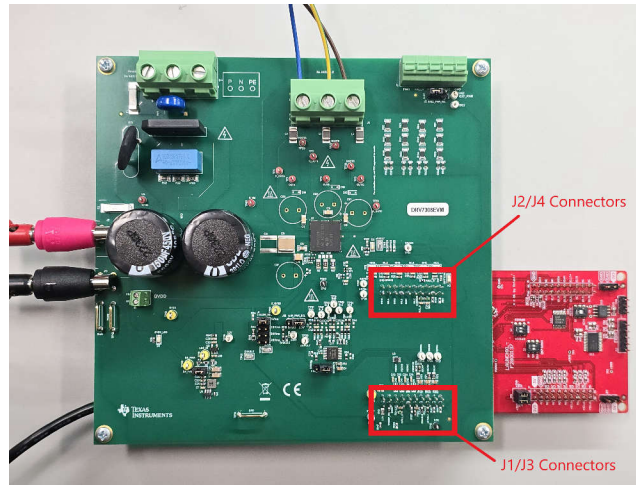

Figure 2-2. DRV7308EVM Mating to C2000 LaunchPad
Figure 2-2 shows the correct connection between the DRV7308EVM and a LAUNCHXL-F2800137 LaunchPad. The USB port and DRV7308EVM power connectors must be facing the same direction.
1. Mate the DRV7308EVM onto the top half of the LAUNCHXL-F2800137 (LaunchPad headers J1/J3 and J2/J4) as shown in Figure 2-2. The motor connectors face the same direction as the micro-USB connector on the LaunchPad. Connect motor phases to A, B, C to the respective OUT\_X connector on the EVM (J6).
2. Do not turn on the power supply yet. For DC input voltage, connect the motor supply positive side to J5 (VM) and the negative side to J10 (GND),